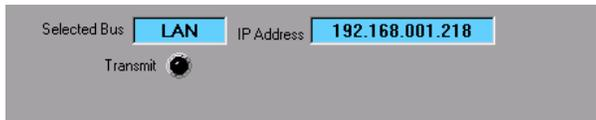

FIGURE 3. LAN SELECTED
- c. LAN: Enter applicable **IP Address** of the power supply (see Figure 3).